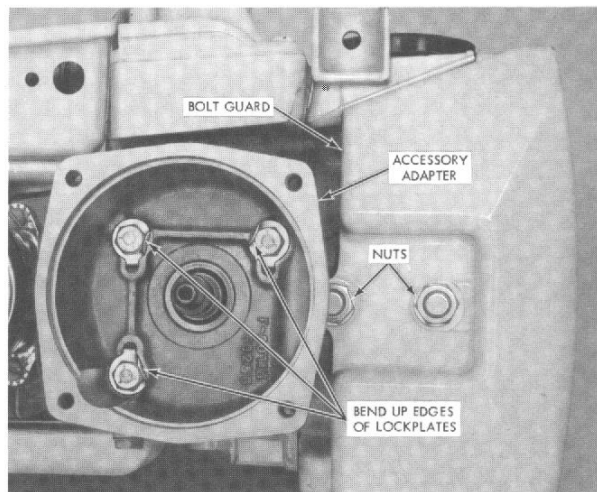

Figure 6. Installation of Adapter
6. Install the Accessory Adapter (P/N 50256) on the crankcase with three 1/4-20 x 1-1/4-inch long screws (P/N 103258) and three 1/4-inch lockplates (P/N 36306). The tab on each lockplate fits into the round hole next to each screw hole in the Adapter. Bend up one edge of each lockplate to hold the screws in place (see Figure 6).